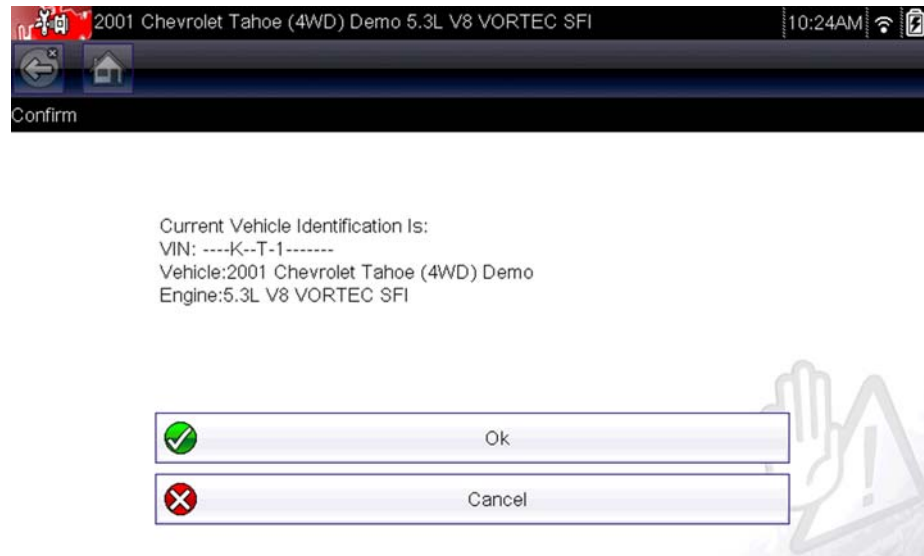

Figure 4-2 Vehicle confirmation screen
- a. Instant ID may occur, as indicated by an audible "beep" sounded within 5 seconds after the diagnostic tool turns on. Select the **Scanner** icon, then wait for the vehicle confirmation screen (Figure 4-2) and select **OK** to continue. Then proceed to **step 6**. See Instant ID, on page 27, for additional information about this function.
- b2.) Once the vehicle has been identified, the vehicle confirmation screen displays (Figure 4-2). If the vehicle information is correct, select **OK** to continue, then proceed to step 6.